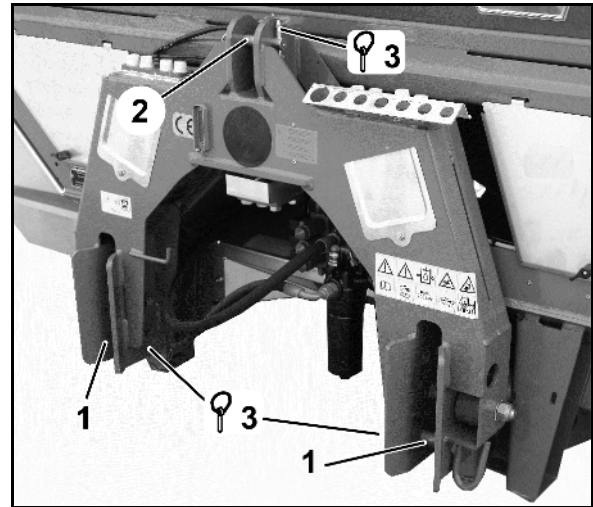

Fig. 35
6. Rigid rollers at rear (Fig. 35)
- o Install and secure with clip pin (Fig. 35/1),
When installing the rigid rollers ensure that the pin (Fig. 35/2) goes through the bore of the frame, thus holding the rollers in longitudinal direction.